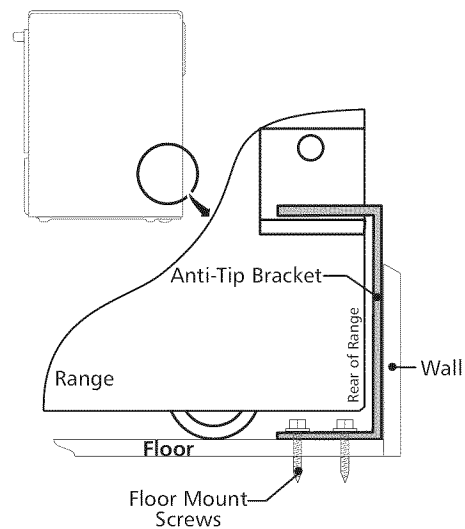

Figure 15
6. Slide range into place making sure structure of the range is trapped by the anti-tip bracket (Figure 15). Lower the range by adjusting the 4 leveling legs until the underside of the cooktop is sitting level on the countertop. Refer to "Leveling the Range" section.